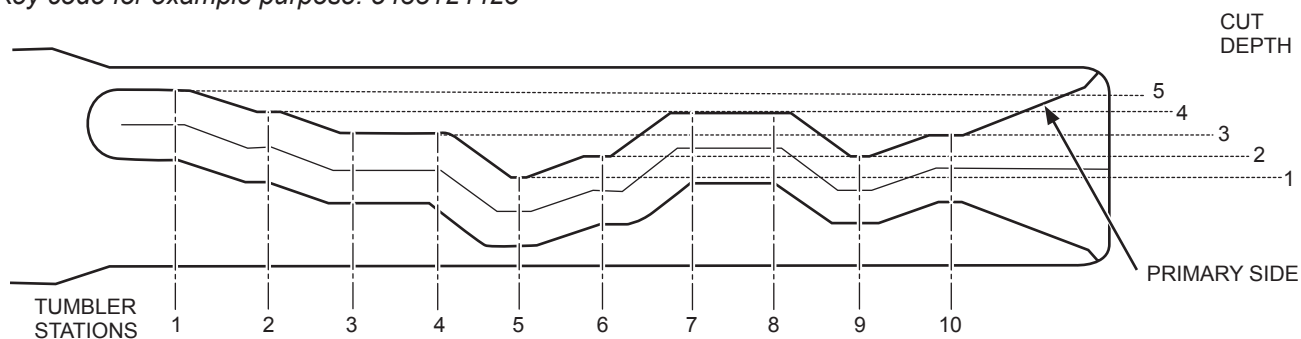

FIGURE 1
- 1b. Using the customer's key, measure the key cut depth at each key station (refer to Figure 1) and write down the corresponding key cut depths in terms of the DEPTH CODE, not the actual measurements of the depths, in this chart.